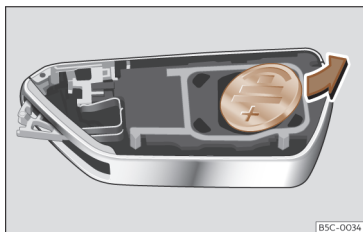

Fig. 73 Vehicle key: removing the battery.
- Remove the battery from the compartment with a suitable thin object >>> Fig. 73.
- Insert the new battery and press it into the battery compartment >>> ③.